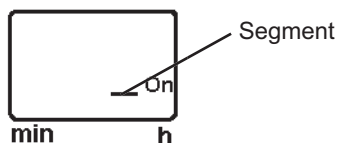

Fig. 18 Green segment right, power supply "on", ignition switch open ("off").
- As soon as voltage is applied (On), the lower right-hand segment in the display window flashes (Fig. 18). If there is only one segment at the bottom this indicates that the ignition switch is open.